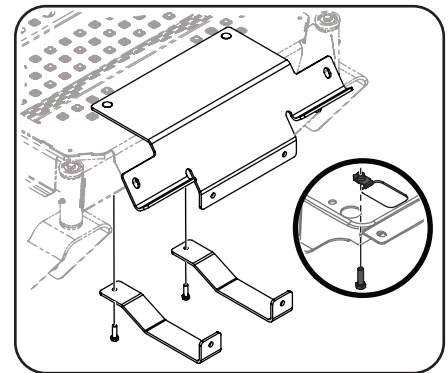

Figure 4-20
4. Loosely fasten the bottom bracket assembly to the tractor frame with 2 self tapping screws (710-0643). See Figure 4-20.